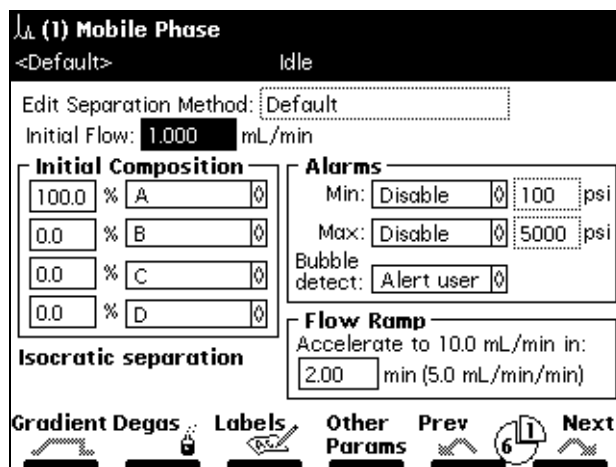

Figure 3-4 Mobile Phase Screen
5. Press **Enter**. The Mobile Phase screen appears (Figure 3-4). This screen is one of six parameter screens. The other five parameter screens are Sample, Autosampler, Column, I/O, and Detectors.